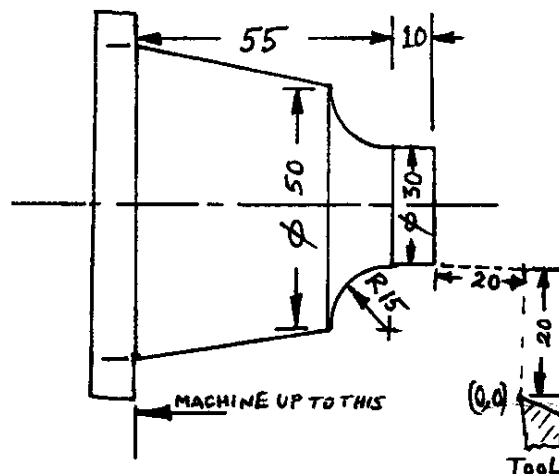

Fig. 4
4. Write a manual part program for turning a job for the finishing cycle as shown in fig.4 using a CNC lathe. 10